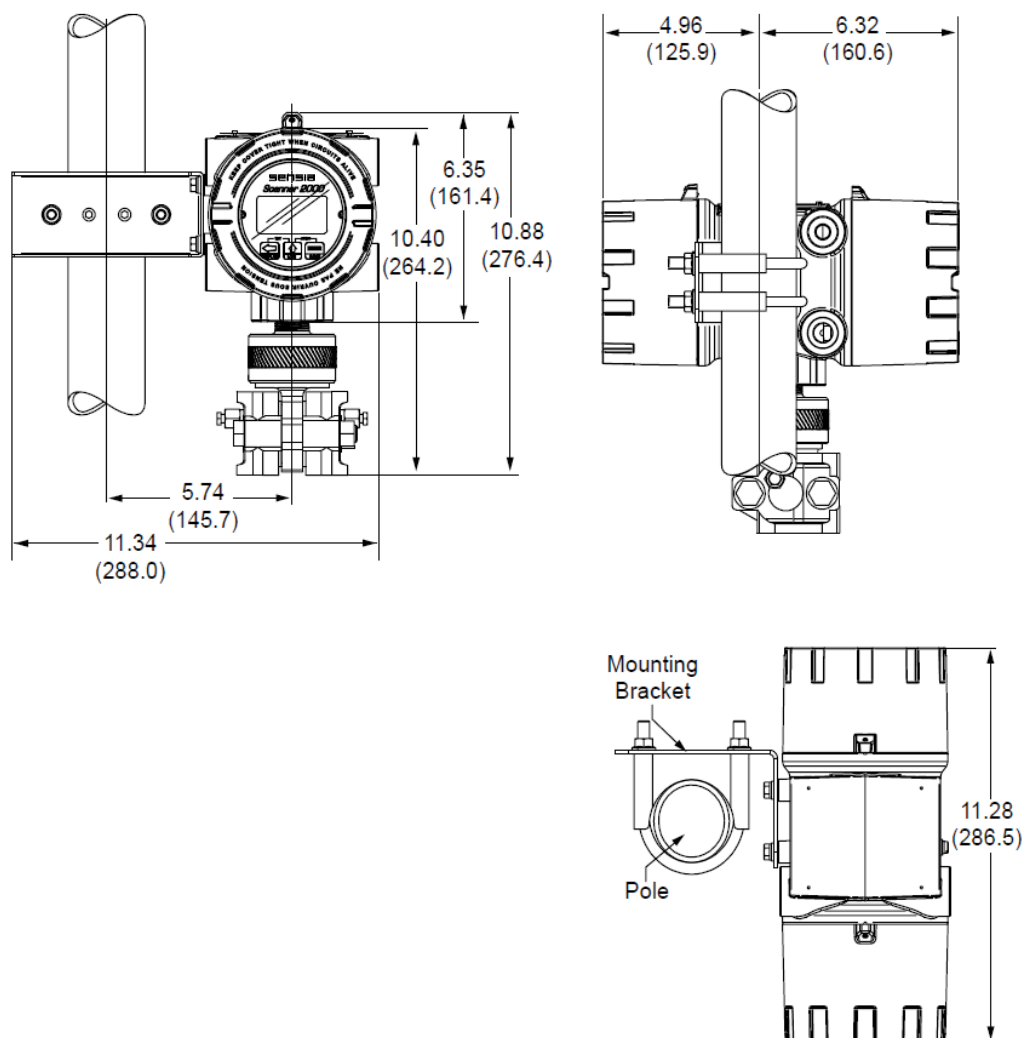

Figure 2.3 - NUFLO Scanner 2105 flow computer with MVT, remote-mounted on a 2-in. pole using a Sensia hardware kit;
- **Pole-mount** (Figure 2.3, page 29). The instrument can be mounted on a 2-in. pole using the mounting bosses on the side of the enclosure and a Sensia pole mount kit. Tubing is used to connect the integral MVT to the orifice meter or cone meter.
Sensia's pole-mount kit is recommended for mounting any NUFLO Scanner 2105 flow computer configuration to a 2-in. pole (Figure 2.3). The kit consists of a stainless steel "L" mounting bracket with four mounting holes, two U-bolts, and four 10-mm M6 screws.